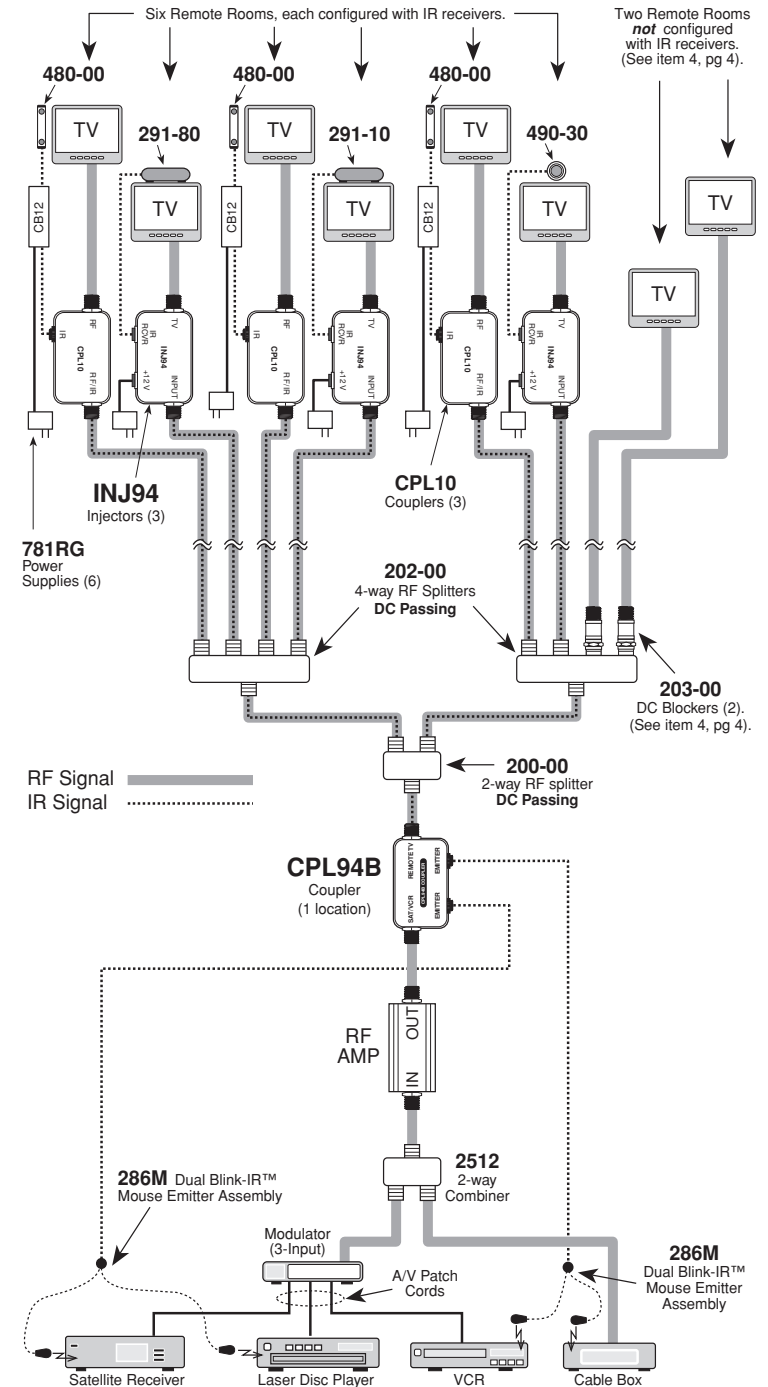

Fig. 4 Advanced Multiroom System
Where possible, place RF amplifiers ahead of the CPL94B Coupler, as shown in **Fig. 4**, instead of using a bypass kit.
- Fig. 4** shows four components being controlled using two 286M dual emitters. This is the maximum number of components controllable with the CPL94B. If you wish to control more, use the CPL10 instead, along with a suitable connecting block, such as the 789-44 or 791-44. See the CPL10 installation instructions for details.
Fig. 4 illustrates an advanced system using a variety of connection and control techniques typical of complex multiroom installations. It is configured as follows: